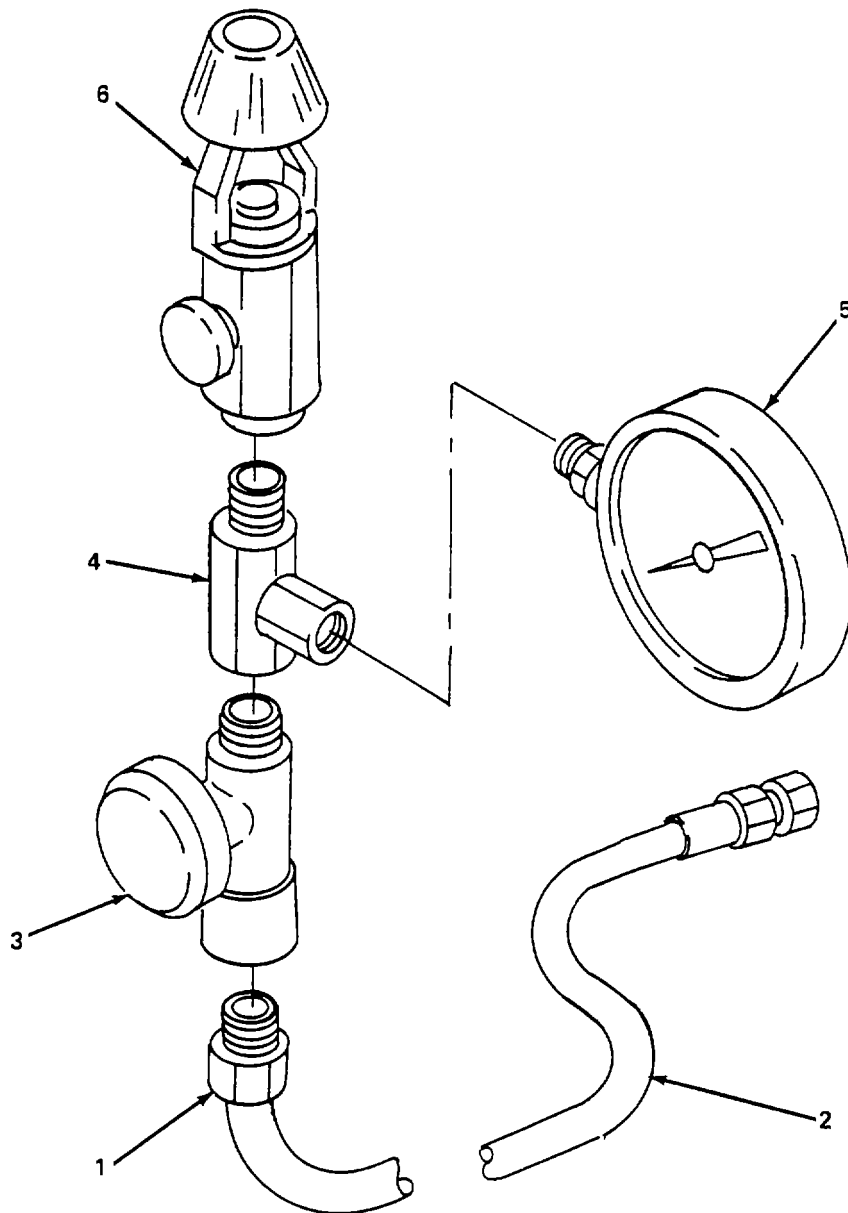

Figure 5-53. Air Tank Charging Whip Assembly, Repair.
**5-38. Air Tank Charging Whip Assembly (Cont).****b. Repair.** (figure 5-53)
- (1) Remove charging whip (para. a.)
- (2) Loosen connector nut (1) and remove line (2).
- (3) Remove valve (3) from tee (4).
- (4) Remove gage (5) from tee (4).
- (5) Remove tee (4) from air station adapter (6).
- (6) Inspect line (2) and replace if cracked, kinked, deformed in any way, or threads are stripped.
- (7) Inspect valve (3) and replace if it is inoperational, leaks, or threads are stripped.
- (8) Inspect tee (4) and replace if cracked or threads are stripped.
- (9) Inspect gage (5) and replace if cracked or otherwise damaged.
- (10) Inspect station adapter (6) and replace if cracked, inoperational, or threads are cracked.